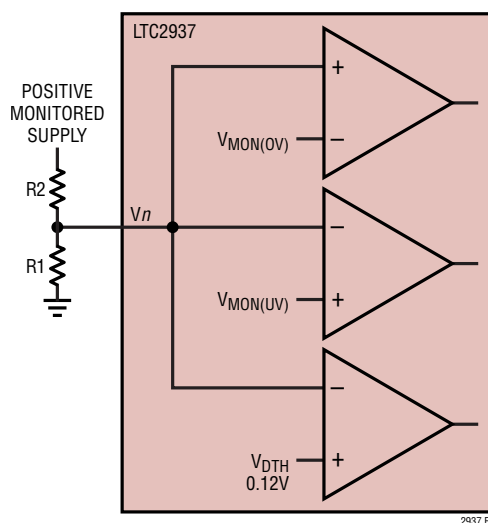

Figure 11. Configuring Custom Positive Thresholds (Operating in the Positive Adjustable Range)
For positive voltage sensing applications, use Figure 11 as a configuration reference. For example, assume a positive input voltage of +15V applied to the top of R2, with a desired UV threshold at 14.3V ($V_{TH(UV)}$). Use the V_RANGE command to select the Positive Adjustable Range. When the input voltage is 14.3V we choose the Vn input to be $V_{MON(UV)} = 1.0V$ (somewhat arbitrarily, for numerical simplicity). $V_{MON(UV)} = 1.0V$ is a code of $uv_threshold_n = 0xCD$ (205). The resistor ratio, $R2/R1$ is easily determined by the equation:
Applying values from the example using Figure 11, the discharge threshold is: